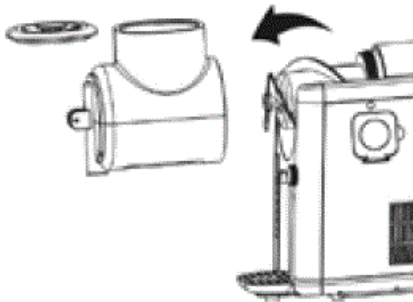

Fig. 8
16. Turn the mixing container anticlockwise and pull it carefully off of the housing (Fig. 8).